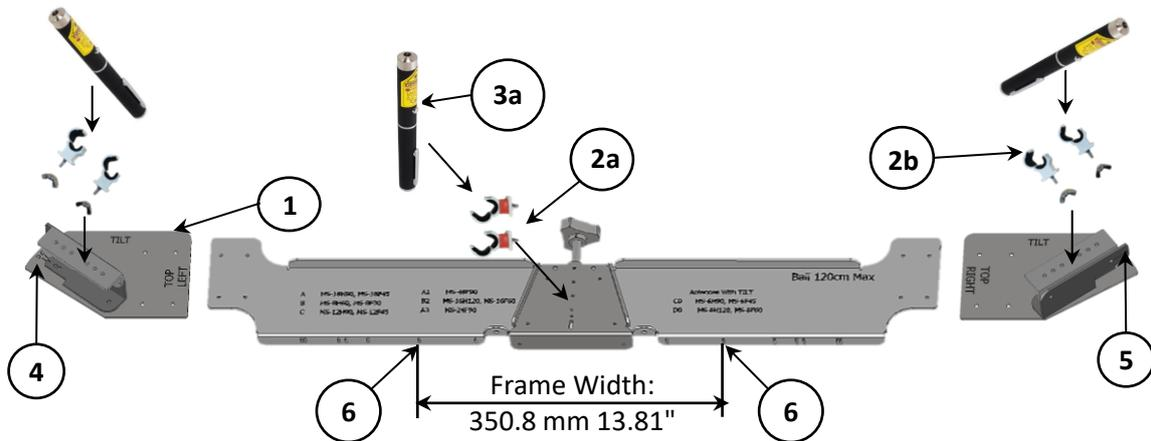

Figure 9: EU SLP Assembly
7. EU Laser Assembly Instructions (Figure 9.)